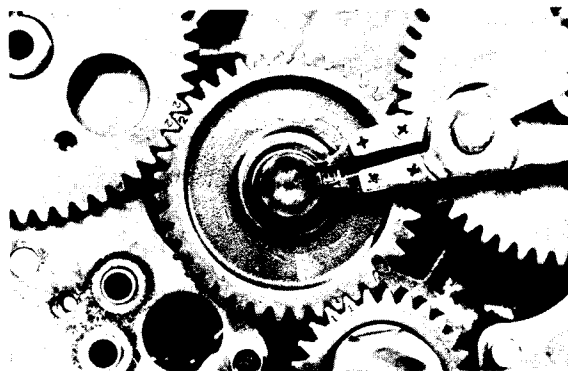

Figure 77
3. Remove the snap ring and remove the idle gear (Fig. 77).